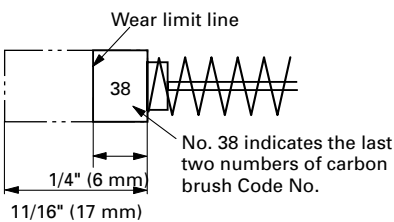
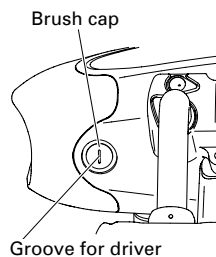

Fig. 53
Fig. 54
2. Inspecting the carbon brushes (Fig. 53 and Fig. 54)
Therefore, inspect the carbon brushes periodically and replace them when they have become worn to the wear limit line as shown in Fig. 53.
The carbon brushes can easily be removed after removal of the brush caps (see Fig. 54) with a slotted (minus) screwdriver.